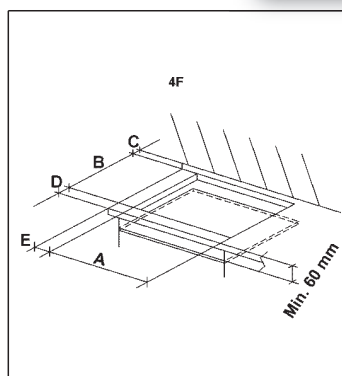
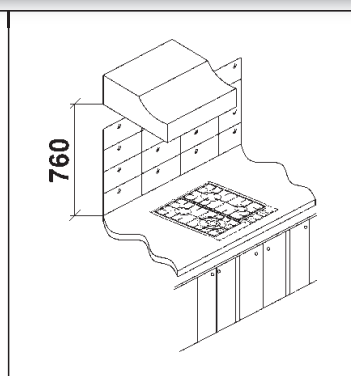

FIG. 7
FIG. 8
The measurements of the opening made in the top of the modular cabinet and into which the hot plate will be installed are indicated in either fig. 7. Always comply with the measurements given for the hole into which the appliance will be recessed (see fig. 8).
- In order to avoid accidental touch with the overheating bottom of the hob, during the working, is necessary to put a wooden insert, fixed by screws, at a minimum distance of 60 mm from the top (see fig. 7).